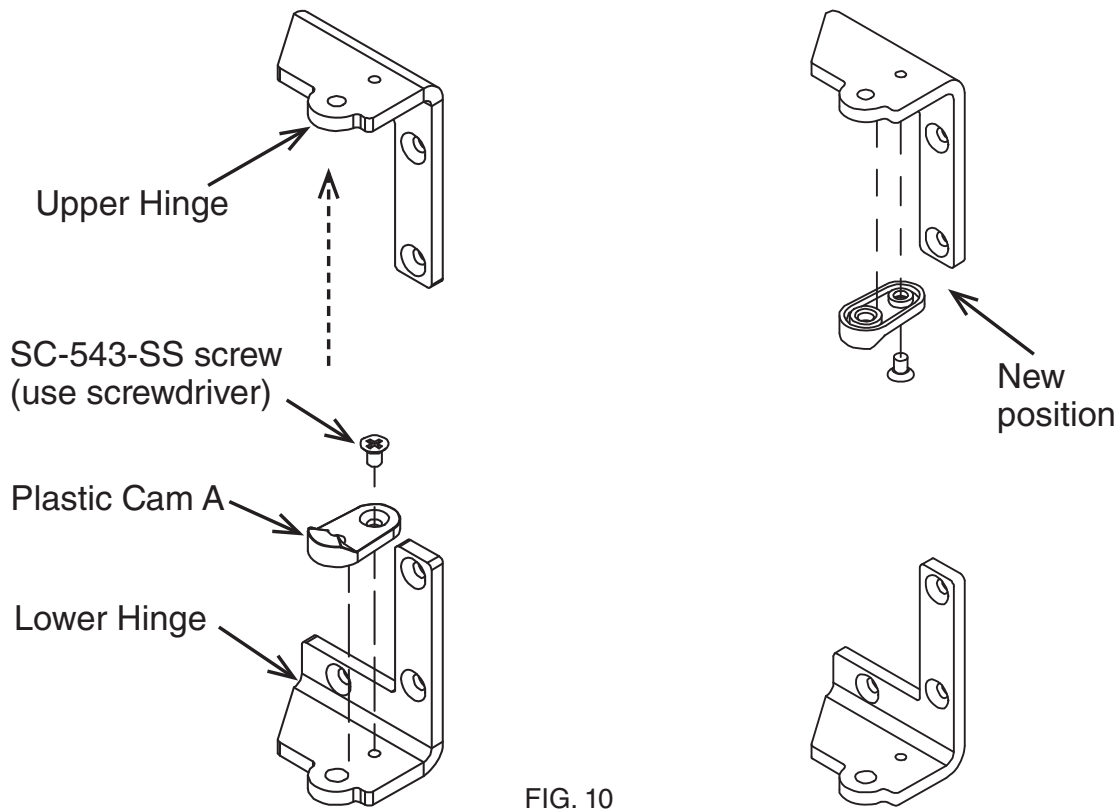

FIG. 10
**Step 8.** Remove the SC-543-SS screw and the Plastic Cam A from the Lower Hinge. Then place them on the Upper Hinge. See figure 10.